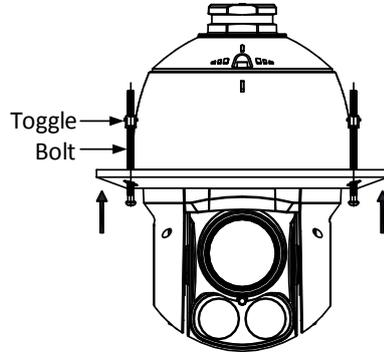

Figure 2-28 Install Toggle Bolts
- 4) Reinstall the toggles as shown in Figure 2-28.